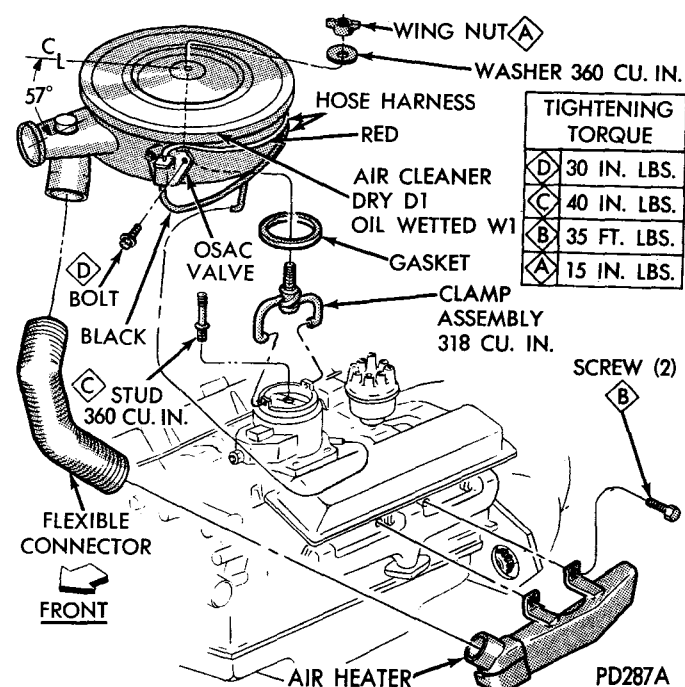

Fig. 5—Carburetor Air Heater and Air Cleaner 318 and 360 Cubic Inch Engines (D100 and W100)
- (2) Disconnect breather cap to air cleaner line and remove air cleaner.
- (3) Refer to figure 5, to remove carburetor air heater and attaching screws.
- (4) Inspect air heater; replace if damaged.
- (1) Refer to figure 5, install carburetor air heater with attaching screws, bolts, nut, and washer assemblies. Tighten to 25 foot-pounds.
- (2) Install air cleaner and connect air cleaner to breather cap line.
- (3) Install air cleaner to carburetor vacuum line, flexible connector between air cleaner and carburetor air heater at heat stove.